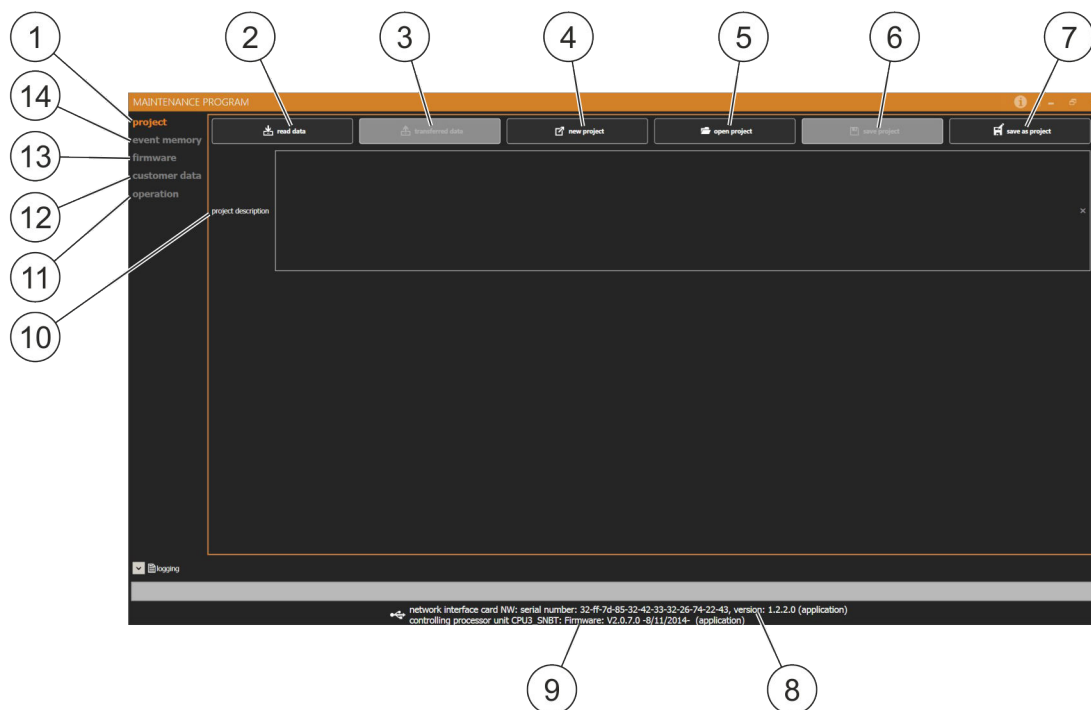

Fig. 79: Maintenance program homepage
- Project (Fig. 79/1) ↪ Chapter 10.3 “Project” on page 94
- Read data (Fig. 79/2) (gray background, if no system is connected)
- Transfer data (Fig. 79/3) (gray background, if no data has been imported yet)
- New project (Fig. 79/4)
- Open project (Fig. 79/5)
- Save project (Fig. 79/6) (gray background, if no project was opened previously)
- Save project as (Fig. 79/7)
- Event memory (Fig. 79/14) ↪ Chapter 10.4 “Event memory” on page 94
- Firmware (Fig. 79/13) ↪ Chapter 10.5 “Firmware” on page 94
- Customer data (Fig. 79/12) ↪ Chapter 10.6 “Customer data” on page 95
- Operation (Fig. 79/11) ↪ Chapter 10.7 “Operation” on page 97
- Network Interface Card serial number, Network Interface Card version number (Fig. 79/8)
- Firmware version (Fig. 79/9)
- The project can be described in the project description (Fig. 79/10). This description is saved with the project via "Save project as" or via "Save project" with the data on the **PC**. The project description is not transferred to the system (DET-AC III Master) and it is not saved in the system. The project description is not available after the data has been exported from a system.